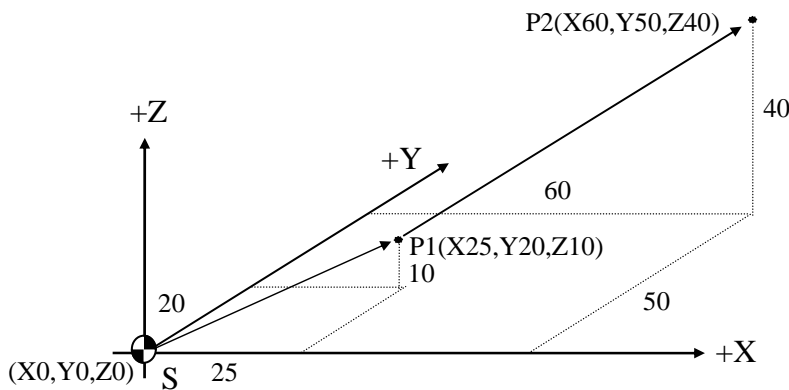

Fig 3-2 G01 Example
1. G90 absolute program- fig3-2
2. G91 increment program- fig3-2
3. G90 increment program- fig3-2